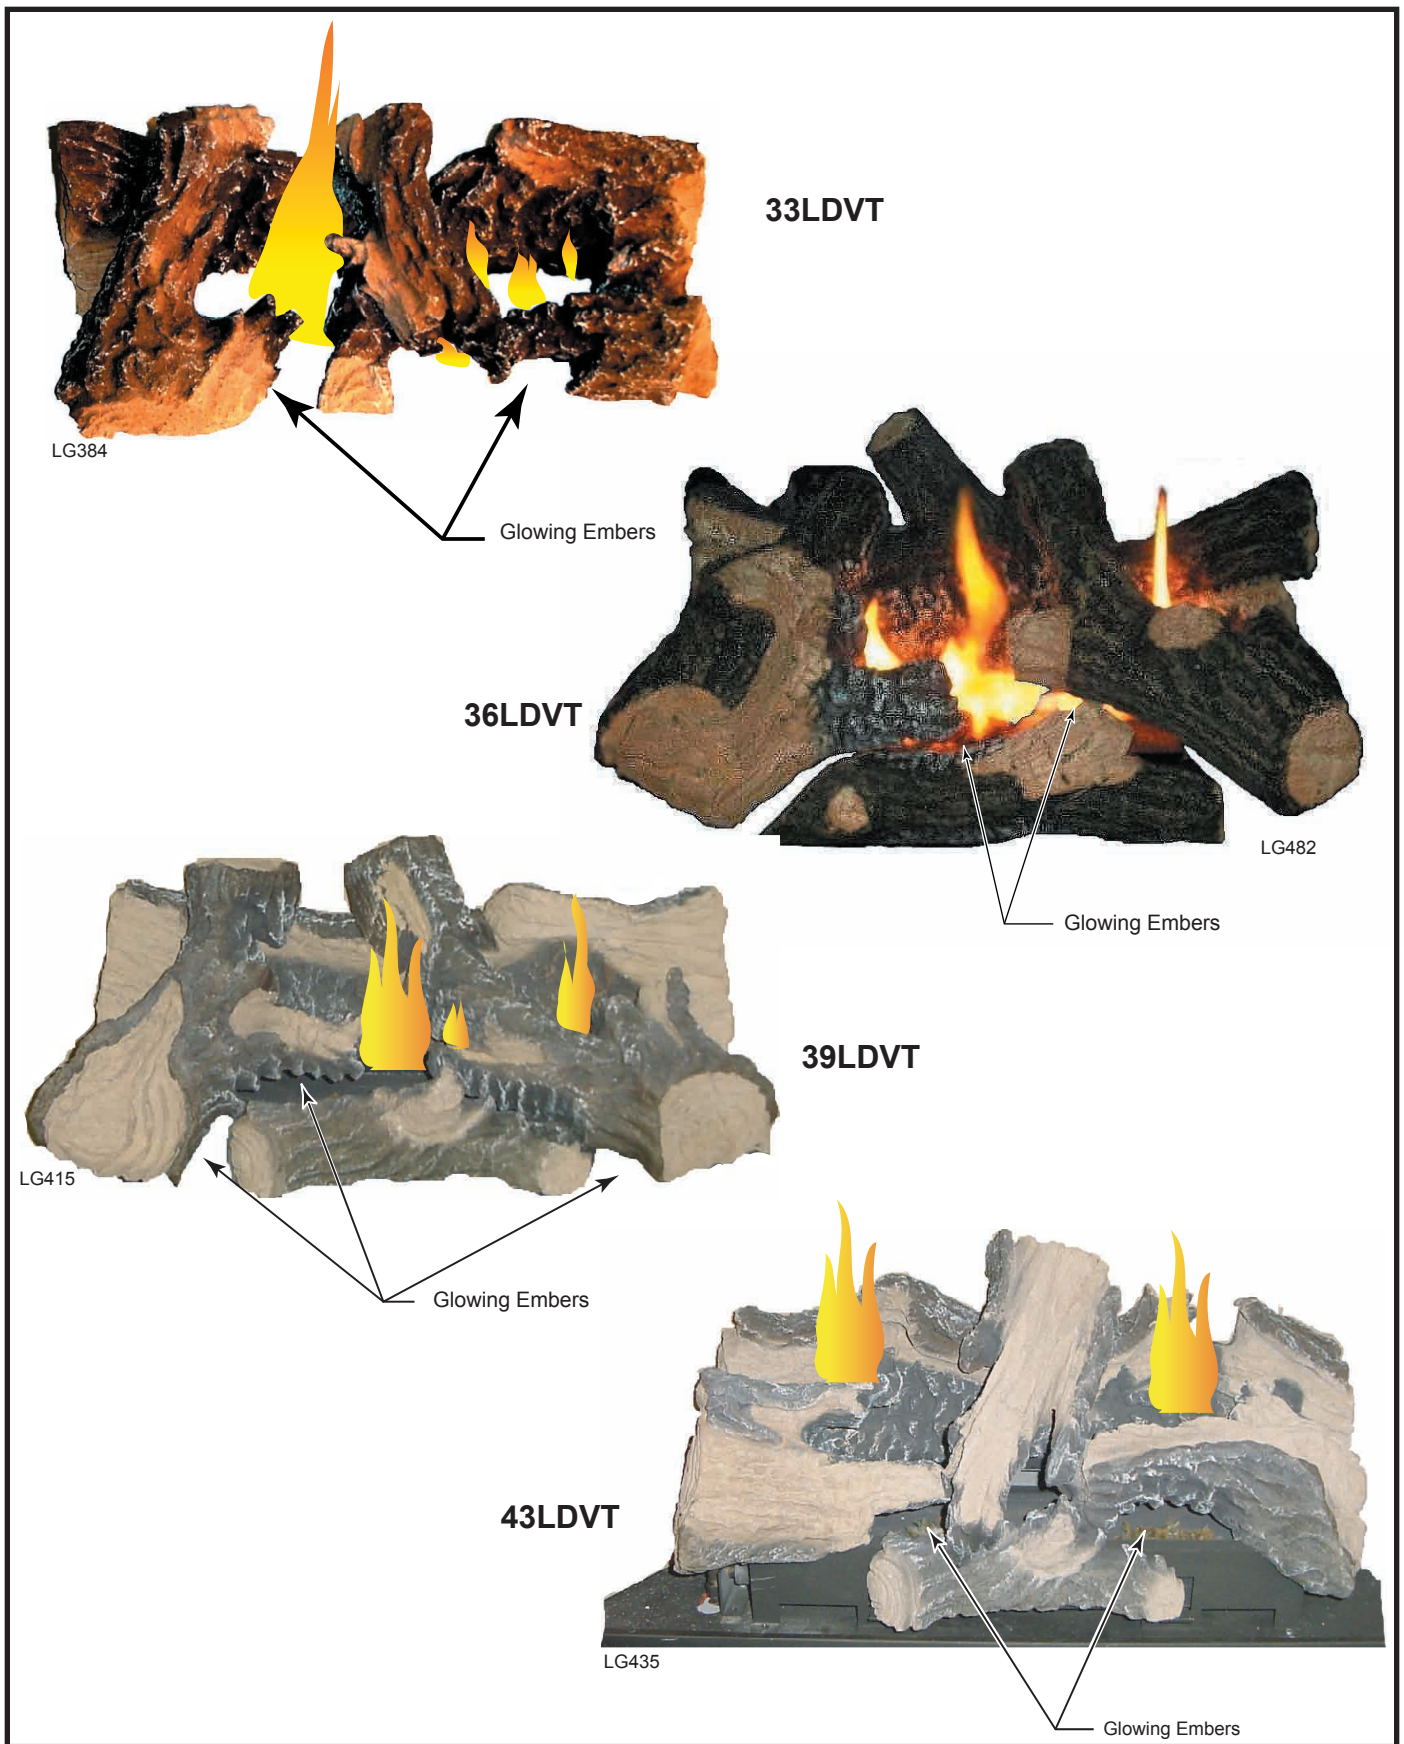

Fig. 44 Correct burner flame appearance for the LDVT fireplaces.
5. Place ember material on top of burner. Scatter the ember material over the tiles on the front area of the burner housing. (Fig. 44) Do not pack the ember material. Separate it when unpacked and keep it in a fluffy and loose condition for a more realistic ember effect.